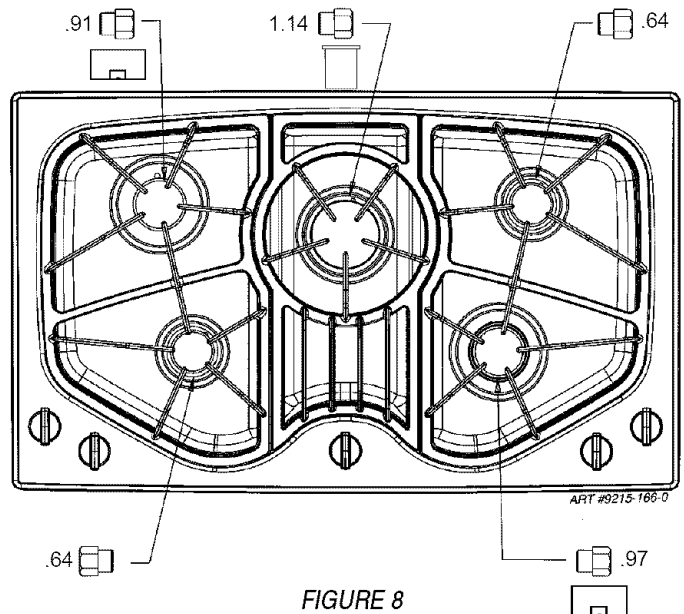

FIGURE 8
Step 4: Locate the LP orifice spud packet included in the literature packet. The spuds have small numbers stamped on the side. This number codes the orifice diameter and its correct burner location. Figures 8 and 9 show the correct LP orifice spud location. There will be extra spuds that are not required for the JGC8430 installation.